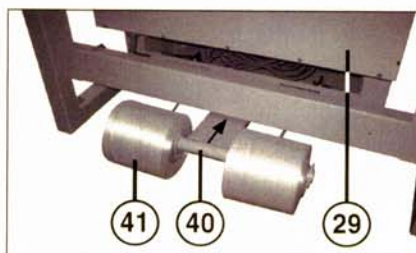

fig. 4
INSTALLING THE STRAP ROLLS (fig. 4):
- 29 = switch cabinet (fig. 4)
- 40 = strap roll holder (fig. 4 and 17)
- 41 = strap roll (fig. 4 and 17)